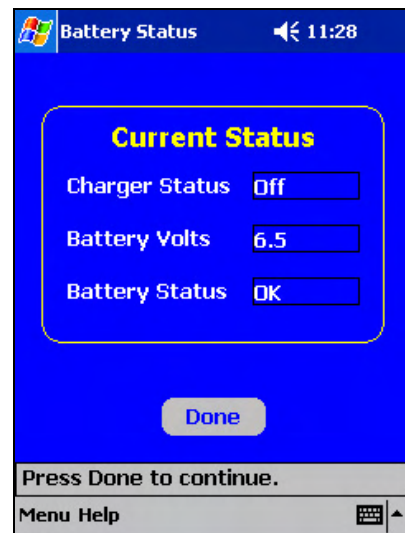

Figure 17. Battery Status Display
- A.5 To start the RoadReader Plus software, press the **(Troxler 3451)** button on the **Troxler** menu. The software displays a splash screen that includes the software version and gauge serial number. The software then establishes Bluetooth wireless communications between the PDA and gauge. Once the PDA establishes communications with the gauge, the software displays the status of the gauge's nickel-metal hydride (NiMH) batteries, as shown in Figure 17.